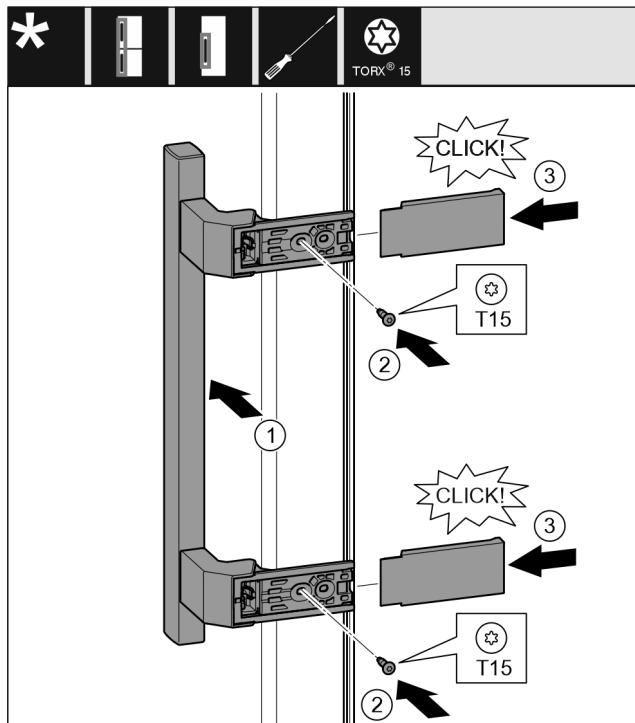

Fig. 15
- ▶ Position the handle on the other side. Fig. 15 (1)
- ▶ Tighten the screw with a T15 screwdriver. Fig. 15 (2)
- ▶ Position the covers on the side and push them on. Fig. 15 (3)